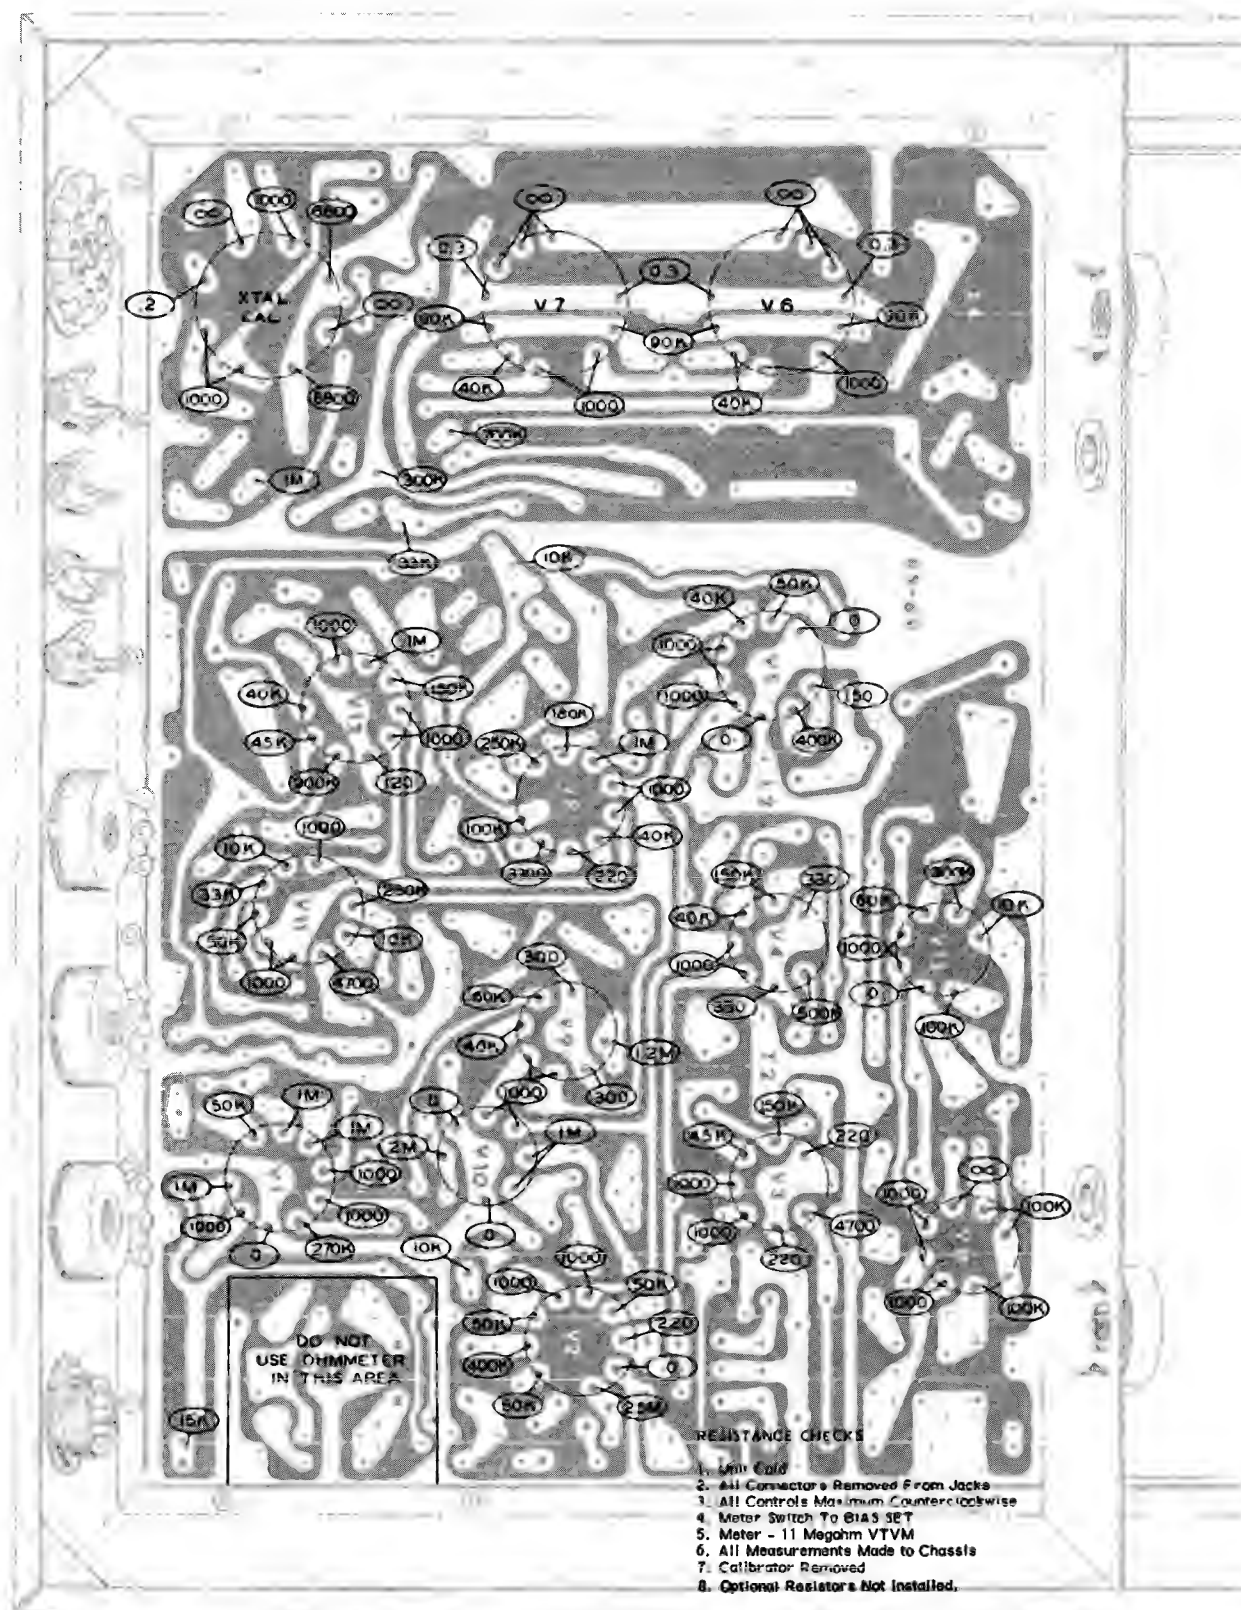

Figure 11
7. If, after careful checks, the trouble is still not located and a voltmeter is available, check voltage readings against those shown in Figures 11 and 12. NOTE: All voltage readings were taken with an 11 megohm input vacuum tube voltmeter. Voltages may vary as much as 10%.
NOTE: To aid in servicing or troubleshooting the Transceiver, refer to the Resistance and Voltage readings on Figures 11 through 13 and the Circuit Board X-Ray Views shown in Figures 14 and 15 on Pages 54 and 55.